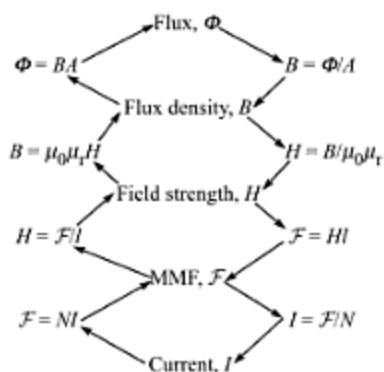

Fig. 6.7 Steps to solve a problem on magnetic circuit.
1. In most problems, the solution takes a standard form, shown as a chain in Fig. 6.7. You are to start at or near one end of the chain. Just go on doing calculations and move to the other end. In Example 6.4, we started at B and worked down the chain in order to obtain I .